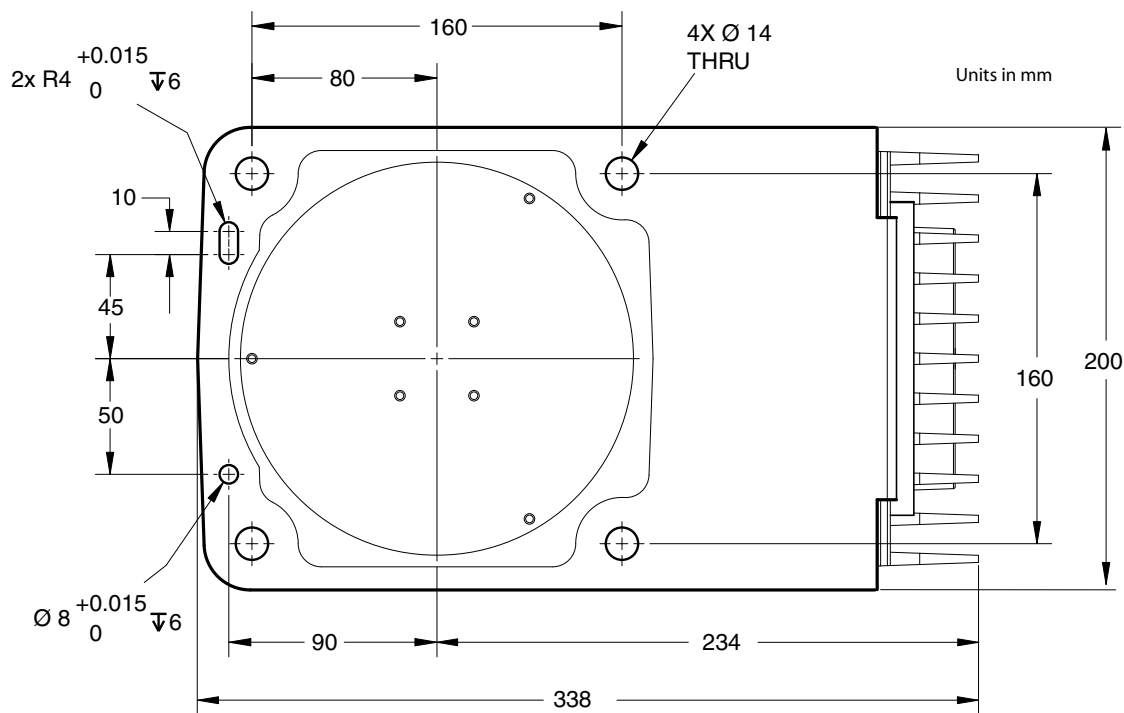

Figure 2-2. Mounting Hole Pattern for Robot
The Adept Cobra i600 and i800 robots are designed to be mounted on a smooth, flat, level surface. The mounting structure must be rigid enough to prevent vibration and flexing during robot operation. Adept recommends a 25 mm (1 in.) thick steel plate mounted to a rigid steel tube frame. Excessive vibration or mounting flexure will degrade robot performance. Figure 2-2 shows the mounting hole pattern for the Adept Cobra i-series robots.
NOTE: On the underside of the base there is a hole and a slot that can be used as locating points for user-installed dowel pins in the mounting surface; see Figure 2-2. Using locating pins can improve the ability to remove and reinstall the robot in the same position.
1. Using the dimensions shown in Figure 2-2, drill and tap the mounting surface for four M12 - 1.75 x 36 mm (or 7/16 - 14 UNC x 1.50 in.) machine bolts (bolts not provided). See Table 2-2 for bolt and torque specifications.